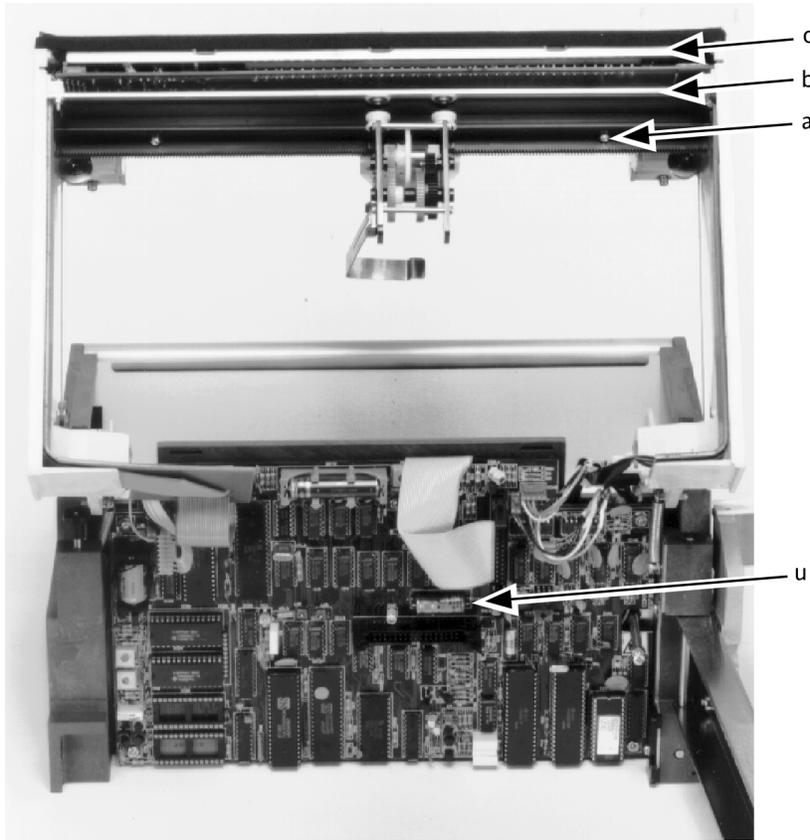

Figure 5.12.3a
- a Any one of the ribbon cartridge guide rail fixing screws (figure 5.12.3a)
- b Ribbon cartridge carriage support plate (figure 5.12.3a)
- c Keyboard backing plate (figure 5.12.3a)
- u Negative end of control board capacitor C11A (figure 5.12.3a)